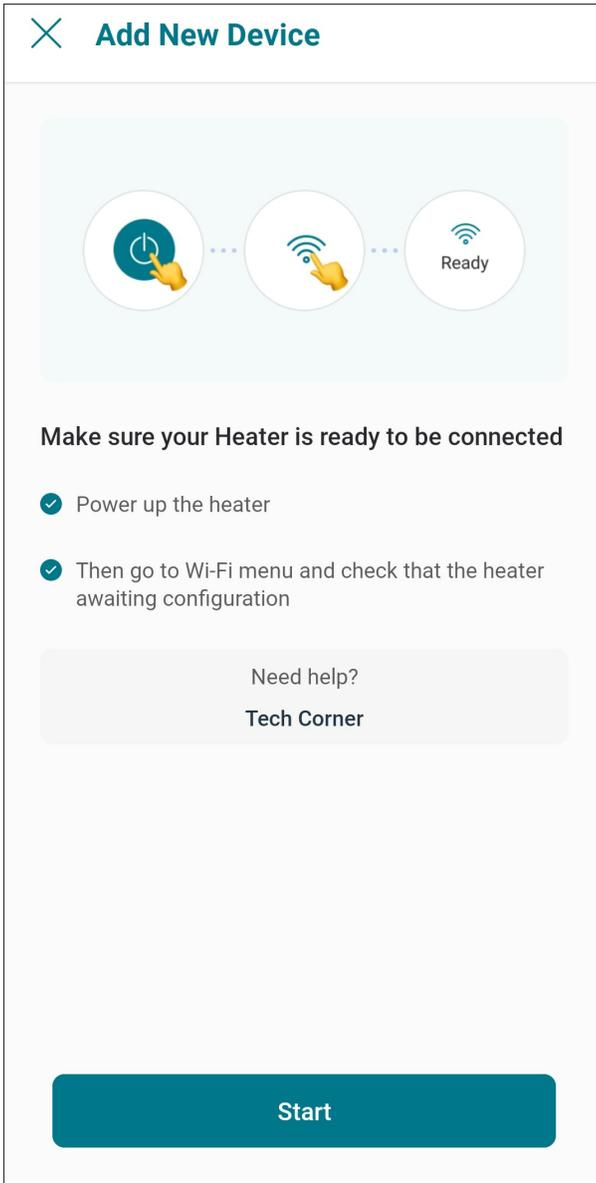

Figure 97. Check your Unit
- "Check your Device" screen will appear. Ensure to have the heater powered and Wi-Fi signal available in the area, then press "Ready" button. See Figure 97.